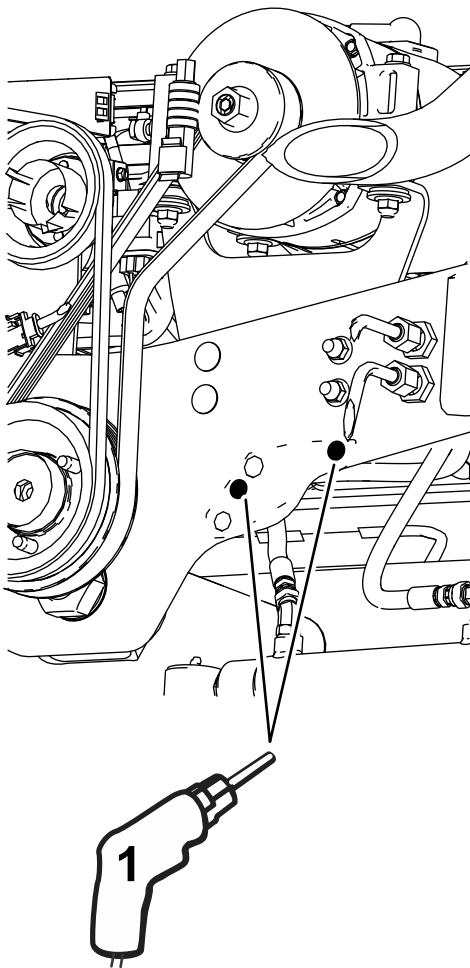

Figure 3
7. Drill 2 holes (13/32 inch) at the punched locations (Figure 3).